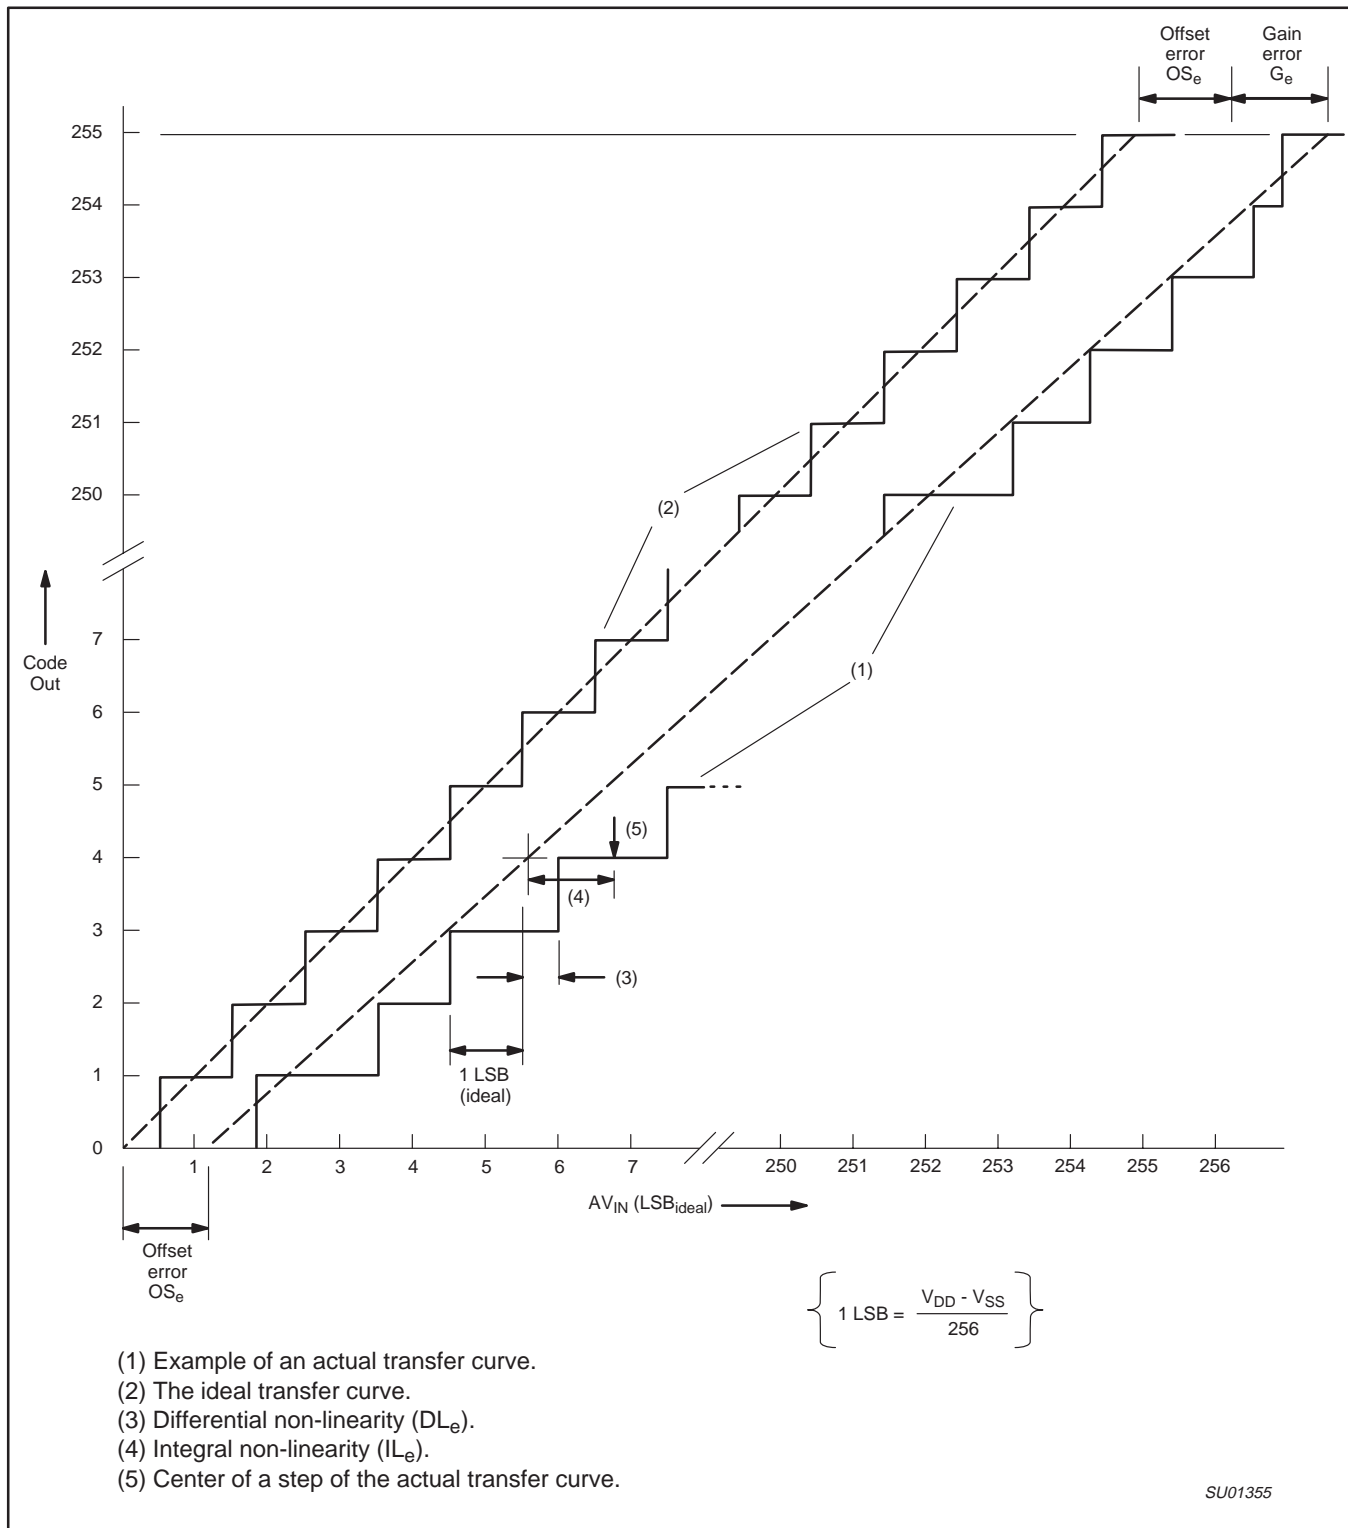

Figure 40. A/D Conversion Characteristics
3. The differential non-linearity (DL_e) is the difference between the actual step width and the ideal step width. See Figure 40.
4. The integral non-linearity (IL_e) is the peak difference between the center of the steps of the actual and the ideal transfer curve after appropriate adjustment of gain and offset errors. See Figure 40.
5. The offset error (OS_e) is the absolute difference between the straight line which fits the actual transfer curve (after removing gain error), and the straight line which fits the ideal transfer curve. See Figure 40.
6. The gain error (G_e) is the relative difference in percent between the straight line fitting the actual transfer curve (after removing offset error), and the straight line which fits the ideal transfer curve. Gain error is constant at every point on the transfer curve. See Figure 40.